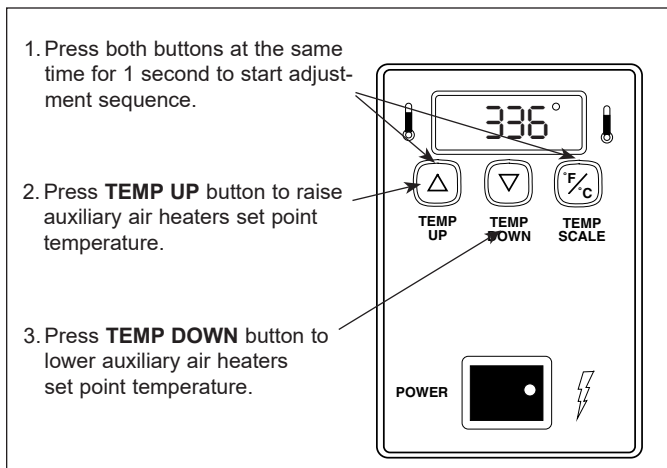

Figure 6. Auxiliary Air Heaters Set Point Temperature
2. Press and hold the **TEMP UP** and **TEMP SCALE** buttons for over 1 second until the display flashes the set point temperature, then release (Figure 6).